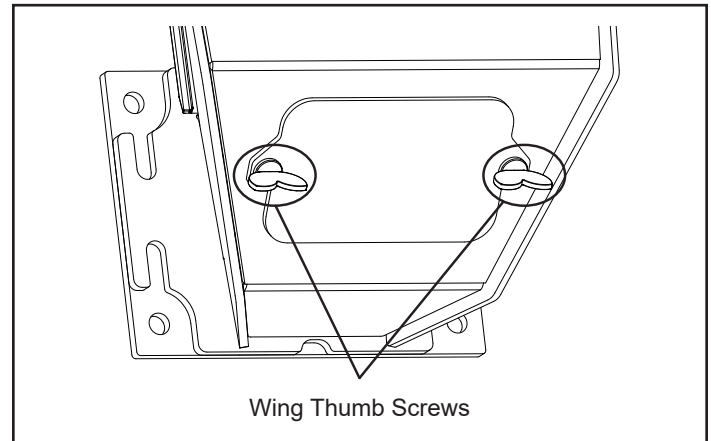

Figure 2.7
- Loosen the (2) wing thumb screws on the lower front angle of the burn pot. Figure 2.7